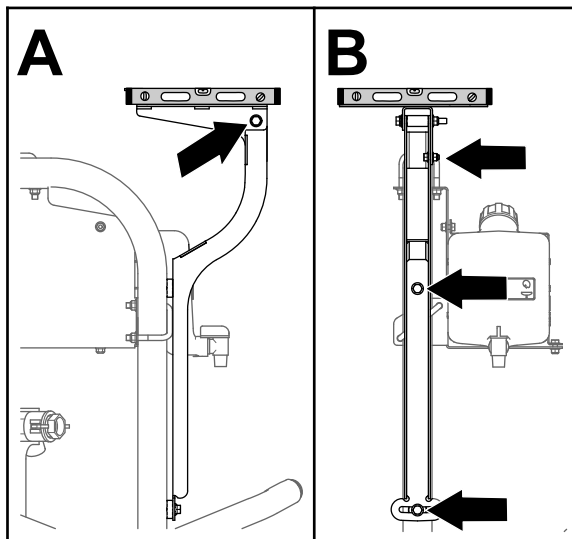

Figure 157
3. Level the receiver plate left to right (Figure 157).
5. Level the receiver plate front to back (Figure 157).